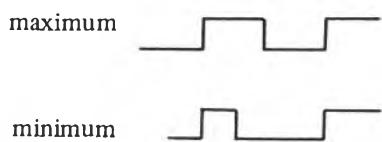

Fig. 4.11
- 3) Switch ON the [PITCH CONT] button and while watching the waveform of TP-2 on the oscilloscope, vary the SPEED by rotating the PITCH CONT KNOB from maximum through minimum. If the square wave duty changes as shown in Fig. 4.11, rotate R86 clockwise (CW), looking at it from the component side of the DD CAPSTAN PCB, so that duty is about 50%. If the waveform is opposite to that in Fig. 4.11, then rotate R86 for a less than 50% waveform and R85 for a 50% duty.